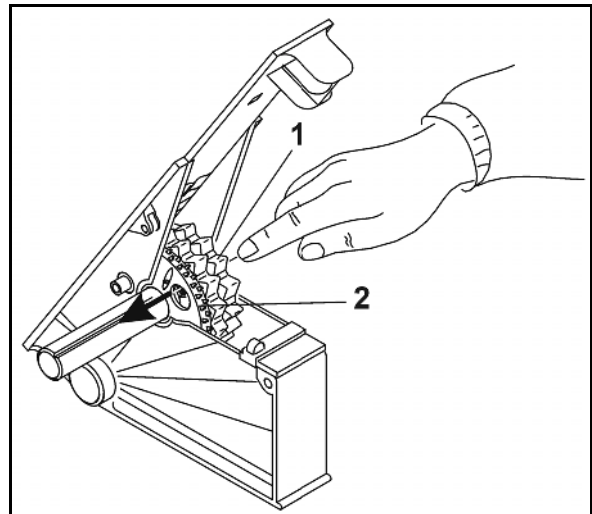

Fig. 30
1. Turn the main seed metering wheel (Fig. 30/1) on the seed shaft until the pin in the metering wheel can be seen.
2. Press at every seed metering wheel the pin against the fine seed metering wheel as illustrated in Fig. 30.